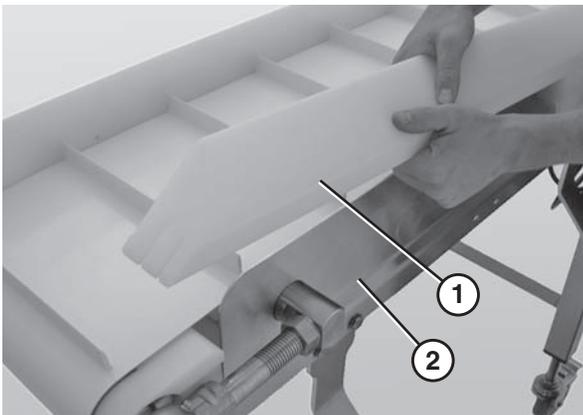

Figure 43
2. Remove the guide (Figure 43, item 1) from the conveyor (Figure 43, item 2).